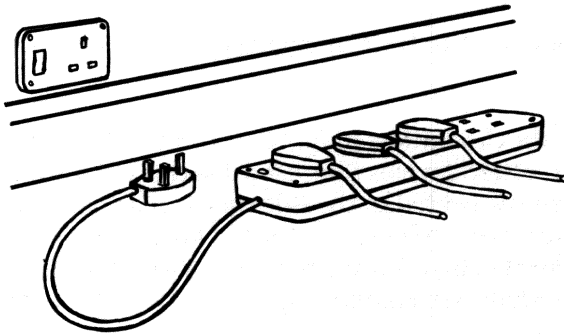

Figure 2.5 Mains Leads Connections
- Plug the three mains leads, from your 480Z, from your disc unit, and from your VDU, into the extension lead or adapter, as shown in figure 2.5, but leave the extension or adapter unplugged.